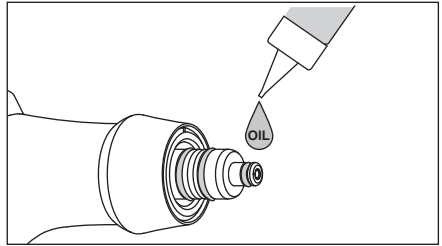

Fig.15
- 1) Dry the O-ring section of the powder case, apply a drop of the enclosed turbine oil and rub it in with your finger. (Fig. 15)